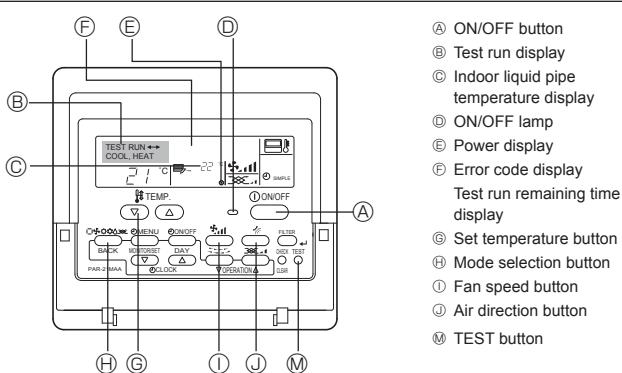

Fig. 8-1
8.2. Test run (Using wired remote controller) (Fig 8-1)
- ① Turn on the power at least 12 hours before the test run.
- ② Press the [TEST] button twice. → "TEST RUN" liquid crystal display
- ③ Press the [Mode selection] button. → Make sure that wind is blown out.
- ④ Press the [Mode selection] button and switch to the cooling (or heating) mode. → Make sure that cold (or warm) wind is blown out.
- ⑤ Press the [Fan speed] button. → Make sure that the wind speed is switched.
- ⑥ Check operation of the outdoor unit fan.
- ⑦ Release test run by pressing the [ON/OFF] button. → Stop
- ⑧ Register a telephone number.